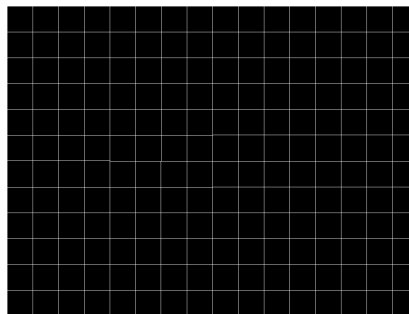

Figure 3-5. Example of Grid Lines Test Pattern
10. The colors for the grid lines pattern are specified using both the foreground and background colors. The foreground color is used for the grid lines, and the background color is used for the space between the lines. As noted in Table 3-3, the user specifies the horizontal foreground and background line width, as well as the vertical foreground and background line width. The user determines the line spacing for each resolution display. For example, if the horizontal foreground line width = 1, and background line width = 9, there is a single pixel horizontal line on every tenth line. If the vertical foreground line width = 1, and background line width = 9, there is a single pixel vertical line on every tenth line. An example of a grid lines pattern is shown in Figure 3-5.